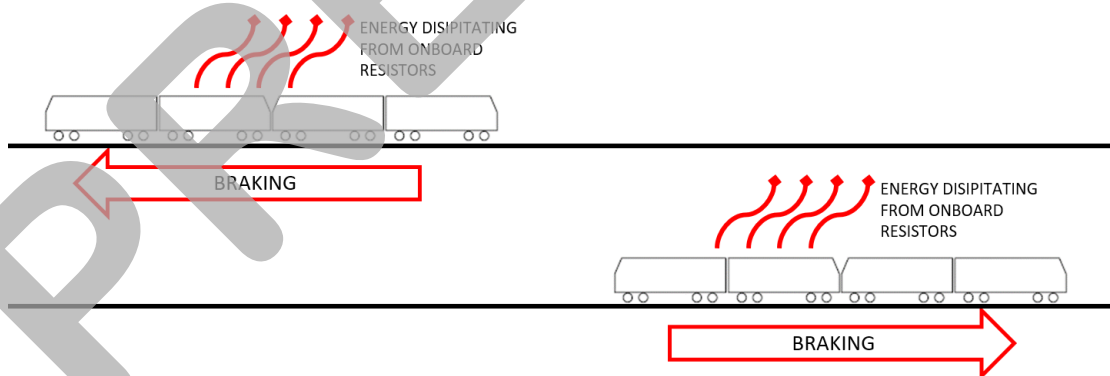

Figure 3.6 DC energy dissipating from resistors
2. **Rheostatic Braking:** If the DC high voltage power source is not receptive and cannot absorb the current, then power is redirected to the brake grid resistors (Figure 3.6).